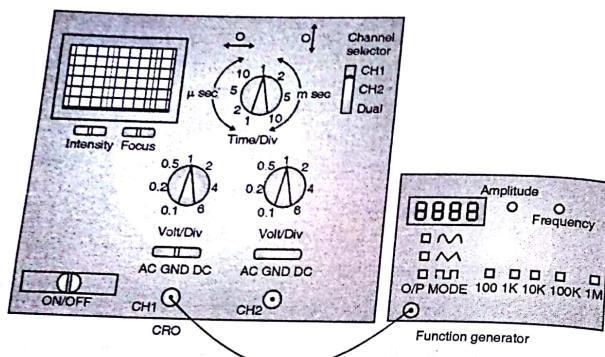

Fig. 7.15.3 : AC volts measurement
- (1) The input coupling switch is kept in A.C. position. The function generator's mode is kept as sinusoidal. The output of the function generator is connected to CH 1 of CRO using BNC connectors.
- (2) The trace on the screen is made to coincide with the central horizontal line of the graticule. The function generator is then turned ON. A signal of a particular frequency is generated using the frequency selector knobs of the generator. The amplitude is set using the amplitude knob.
- (3) By adjusting the vertical amplifier sensitivity and time/div knob on the CRO the wave size on the graticule is adjusted to get a sufficiently large display without going beyond the limits of the screen.
- (4) The vertical length of the wave from the negative maximum to the positive maximum is read on the graticule. It is multiplied by the value set on the volt/div knob. This will give us the peak to peak value (amplitude) of the A.C. signal. Then observe the length of one full cycle of the wave on the CRO in the horizontal direction. Multiplying this value with the value set on the time/div knob we get the time period of the A.C. signal. Reciprocal of this value will give us the frequency of the A.C. signal (Refer Fig. 7.15.3).